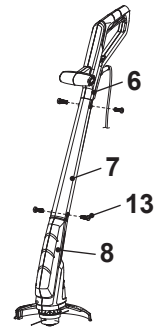

Fig. 2
3. Secure the upper pole (6), the middle pole (7) and the lower pole (8) with four screws (13) in clockwise (Fig. 2).